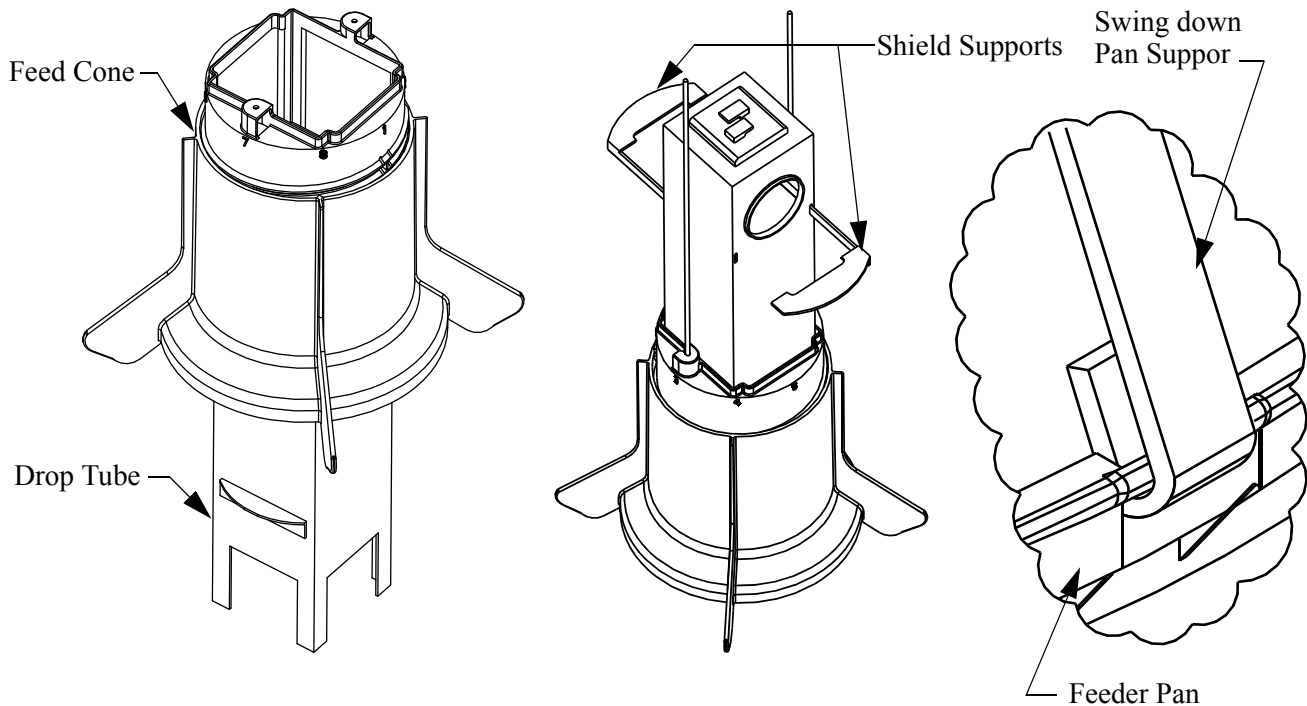

Figure 20. Drop Tube Installation
8. Insert the Drop Tube into the Feed Cone assembly, **See Figure 20.**